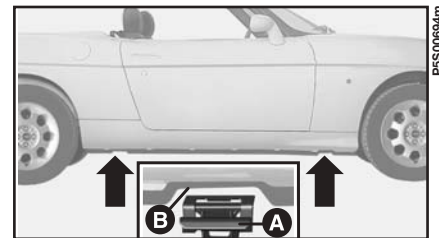

fig. 4
8) Place the jack near the wheel to be changed and make sure groove **A**-fig. 4 of the jack fits snugly into slot **B** of the long member.